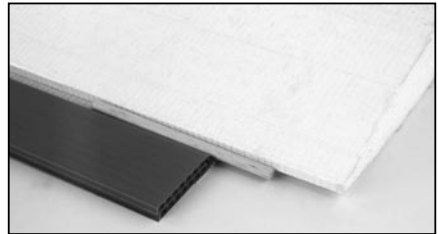

fig. 10
- ▼ 2. Now turn the wing over and lay the aileron onto the exposed Bullet tape. Temporarily space out from the wing trailing edge using the dowels in the kit (see fig. 10).